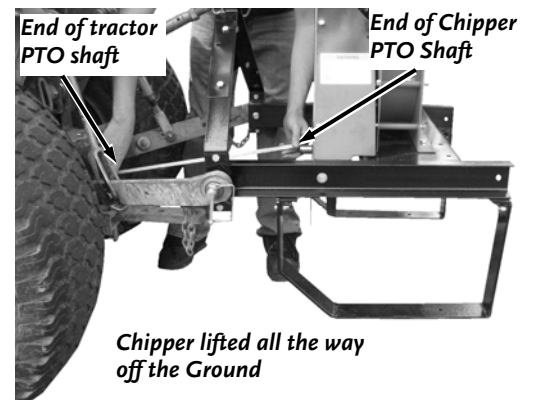

Figure 16
3. Raise the Chipper up as far as it will go. Measure from the end of the Tractor PTO Shaft to the end of the Chipper PTO Shaft and record this dimension in the "FULLY RAISED" row of the table above (Figure 16).